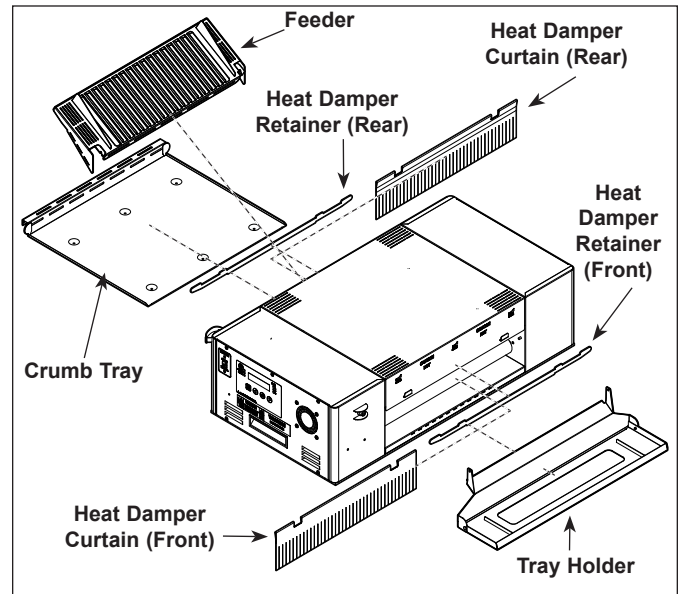

Figure 1. HRT-5H Components
2. Attach the Bun Feeder, Crumb Tray, and Tray Holder, and Tray (Figure 1).